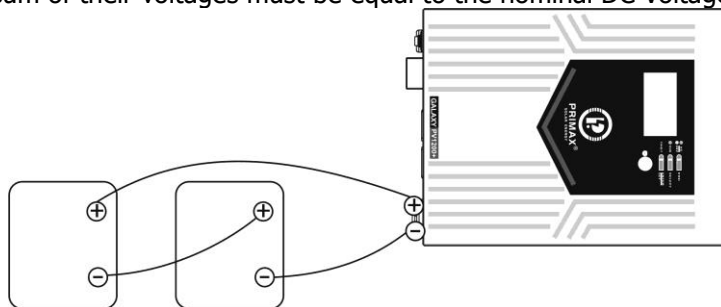

Fig 3
- 2) Multiple batteries in series connection(Refer to Fig. 3):** All batteries must be equal in voltage and amp hour capacity. The sum of their voltages must be equal to the nominal DC Voltage of the unit.